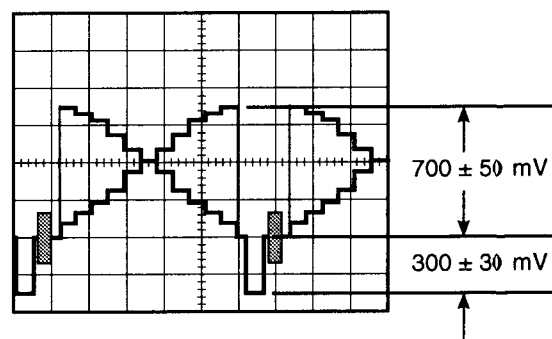

Fig. 5-26
- Confirm that the Video signal becomes 700 ± 50 mV as shown in Fig. 5-26.
- If not, adjust data with the **ARROW** keys so that the Video signal level becomes 700 ± 50 mV as shown in Fig. 5-26.